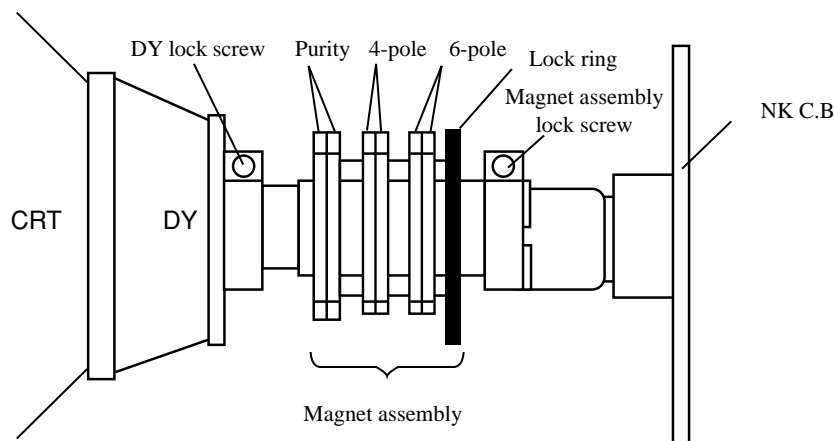

Fig 1-4
(4) The composition of each magnet is as shown in Fig. 1-4.
Be careful not to loose the lock ring too much. If the magnet assembly has become shifted during adjustments, secure it to the position in Fig. 1-4.
- (4) After adjustments are completed, secure all magnets with the lock link. (Refer to Fig. 1-4)